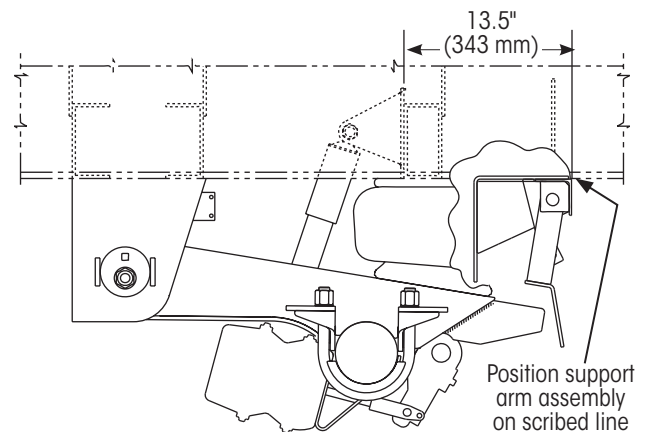

Figure 49: Positioning SURELOK on the scribed line
4. **Position** the SURELOK support arm assembly against both trailer frame beams (Figure 49) so the back edge of the support arm assembly is on the lines scribed in the previous step.
11. **Remove** the temporary clamps and **finish welding** the SURELOK assembly to the slider box bottom flange with a 1/4-inch (6 mm) fillet weld (Figure 49). Adhere to the same welding parameters as presented on APPENDIX A: WELDING DETAILS on page 44.